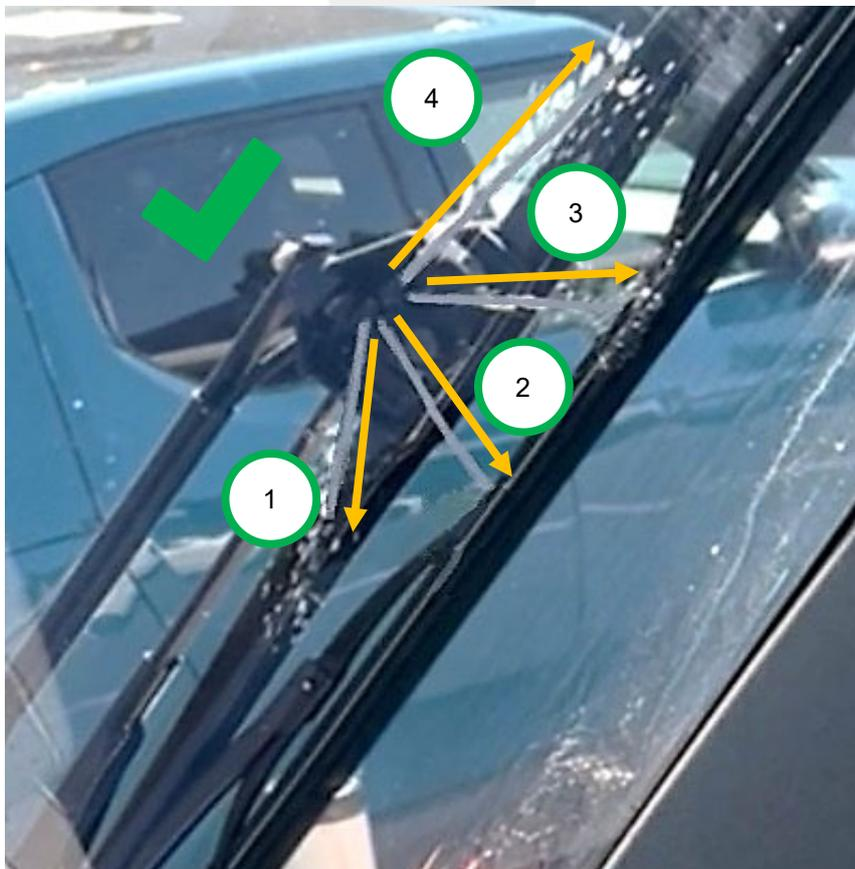

Figure 2 – Four windshield washer nozzle jet streams
- If four windshield washer nozzle jet streams spray on the windshield (Figures 2 and 3), skip to step 9.